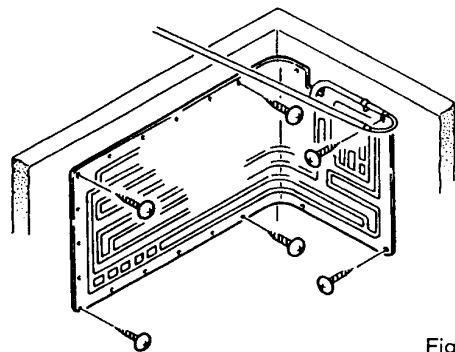

Fig. 9
- 12) Remove all the screws securing the evaporator to the inside of the cabinet. (See Fig. 9)